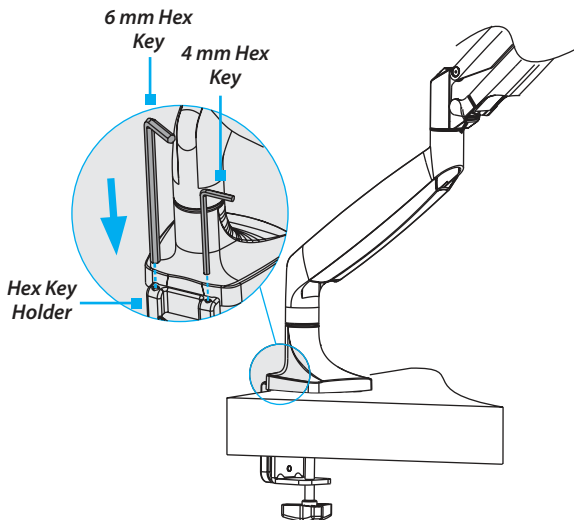

Figure 15
Tip! If you used the **Desk Mount** to mount the **Arm Mount**, when you're done adjusting the **Arm Mount**, you can store the hex keys in the **Hex Key Holder** (11) on the side of the **L Bracket** (9). (Figure 15)